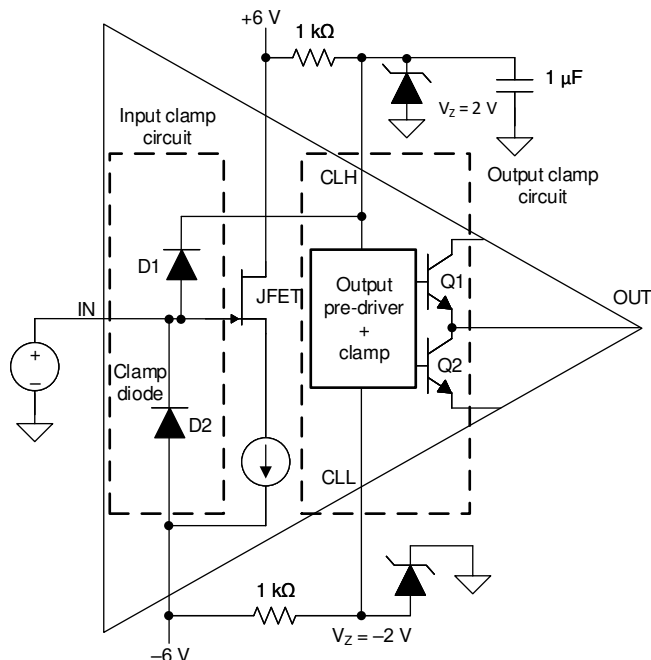

图 8-2. Internal Input and Output Over-Voltage Clamp
- 图 8-2 shows the input of the BUF802 tied to pins CLH and V_{S-} through two internal clamp diodes, D1 and D2. The diodes are rated for 100 mA of continuous current but can withstand much higher transient currents. If the JFET input voltage exceeds the voltage at CLH or V_{S-} , the diodes get forward biased, clamping the JFET to CLH and V_{S-} . A 1 μ F capacitor connected in parallel to the zener diode, helps in transient absorption travelling through the D1 diode.